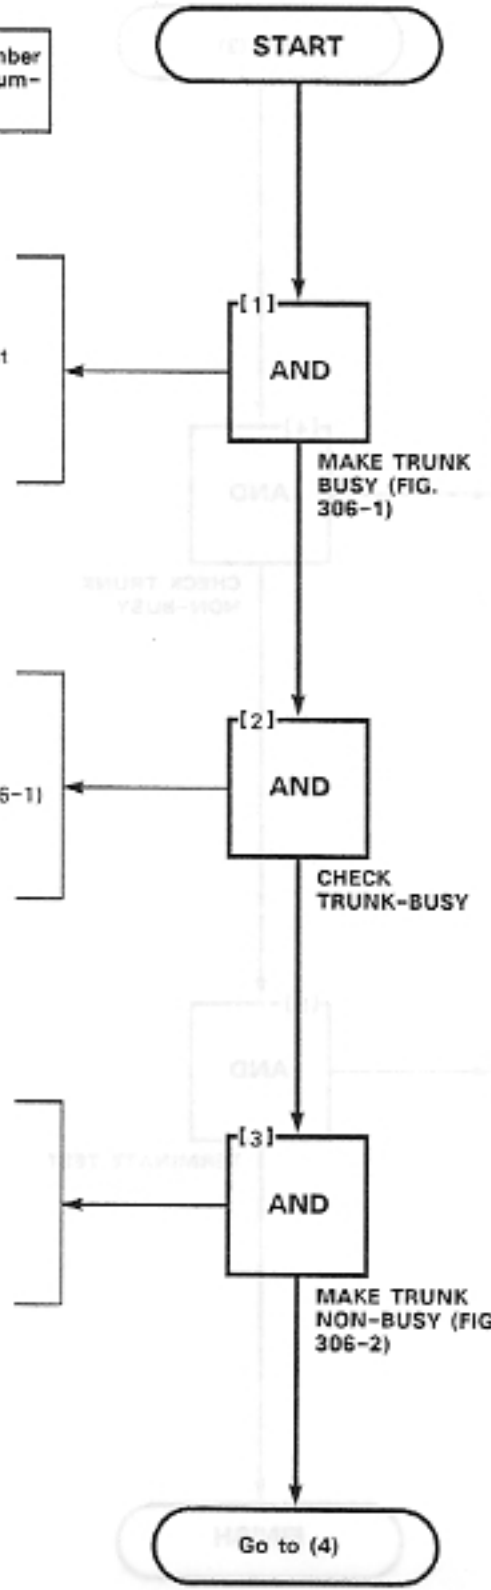

Fig. 306-1
- * DESTINATION display shows number dialed, ATT lit (Fig. 306-1)